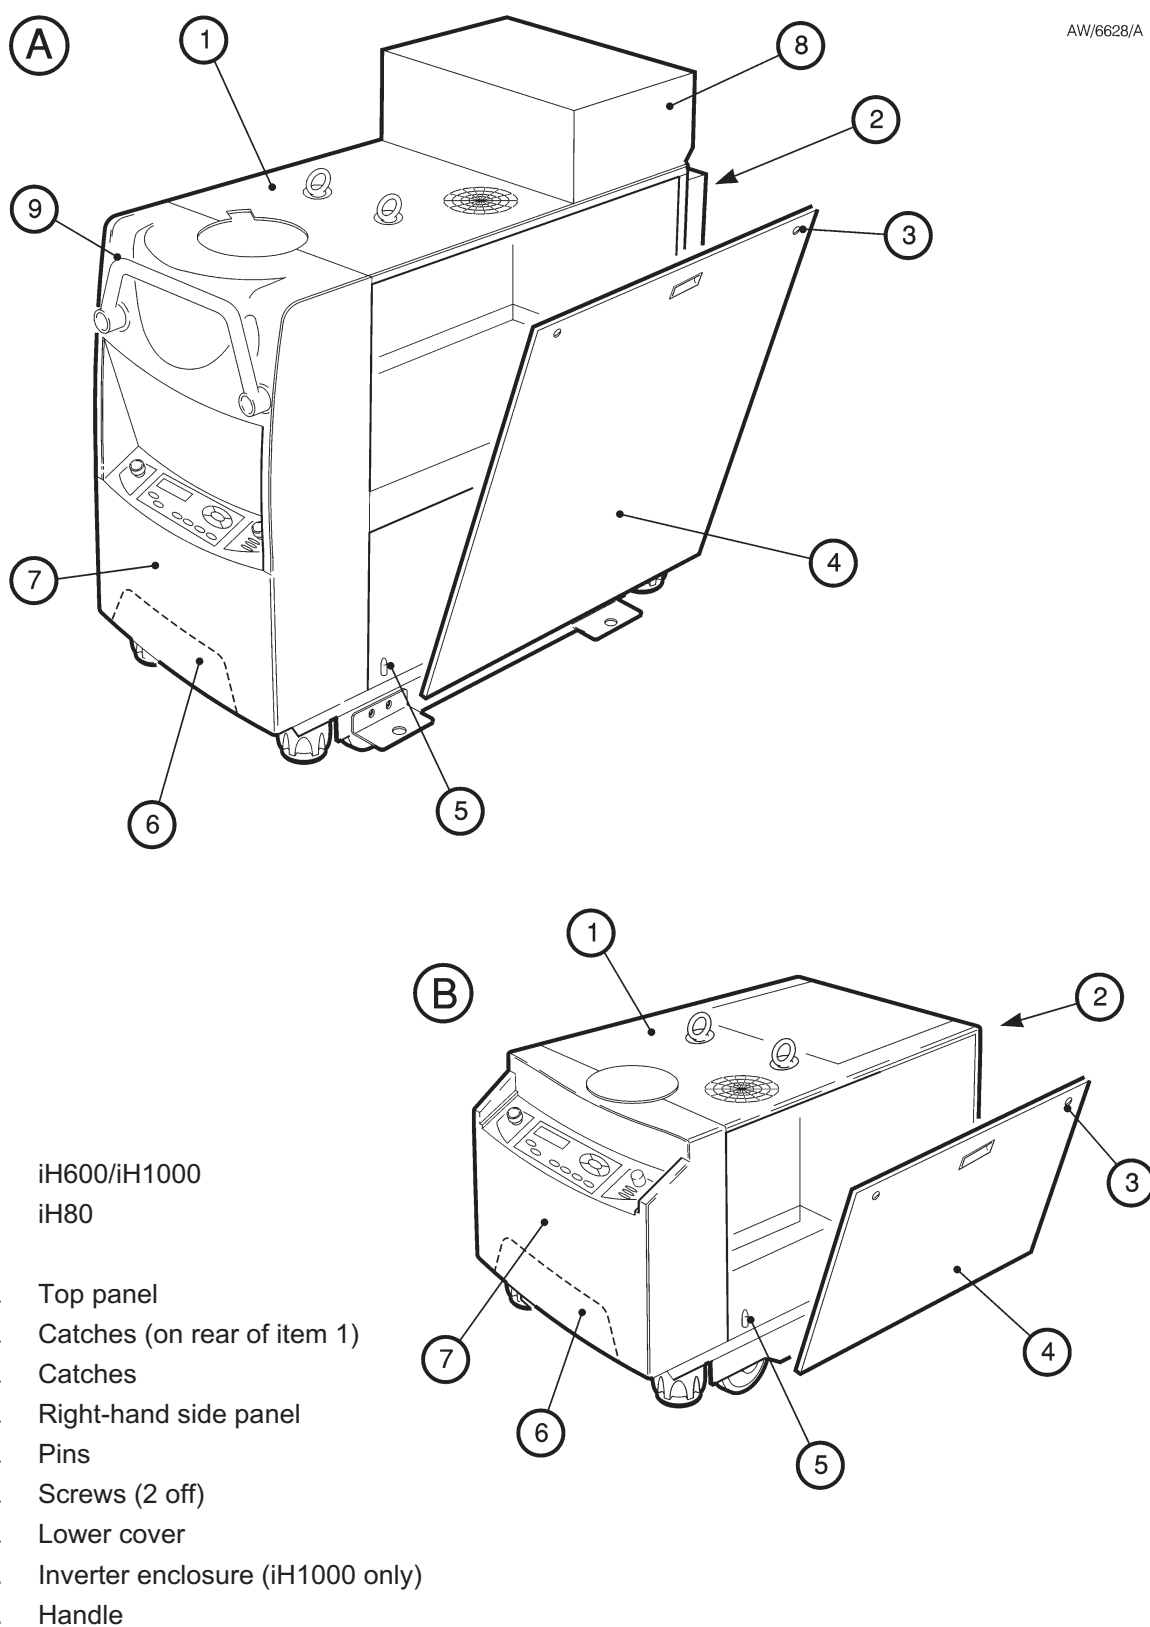

Figure 3-3 - Remove/refit the enclosure panels
1. Refer to Figure 3-3.
- Place your hand against the top of the right-hand side panel (4) to support it and use a posidrive screwdriver to release the two or four M5 screws.
- Swing the top of the panel out slightly and lift out the panel so that the holes in the bottom of the panel disengage from the pins (5) on the frame.